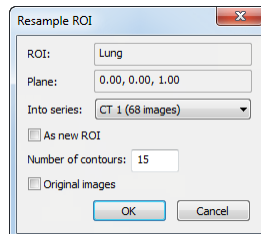

Figure 172 – Resample ROI dialog
2. Select the ROI to resample in the ROI list and press the **Resample...** button. The **Resample...** dialog will be displayed (see Figure 172).